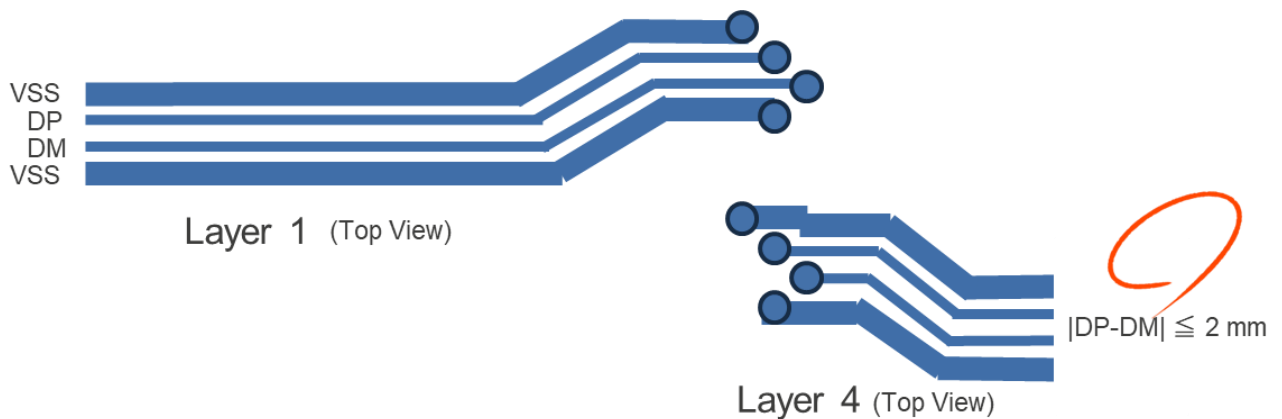

Figure 16, Recommended Design Diagram for Differential Signals
- Differential signals (DP, DM) are designed with a differential impedance of $90 \Omega \pm 10\%$ and are wired in pairs (same length, parallel, same width, same number of bends, same number of THs). The approximate trace length difference is within 2 mm (See Figure 16). Shield with USB VSS. If it is not possible to shield, do not space it from other signals (especially traces with large currents or high-speed signal patterns) or parallel them. Do not cross as much as possible. Slots/slits in adjacent layers should also be avoided.